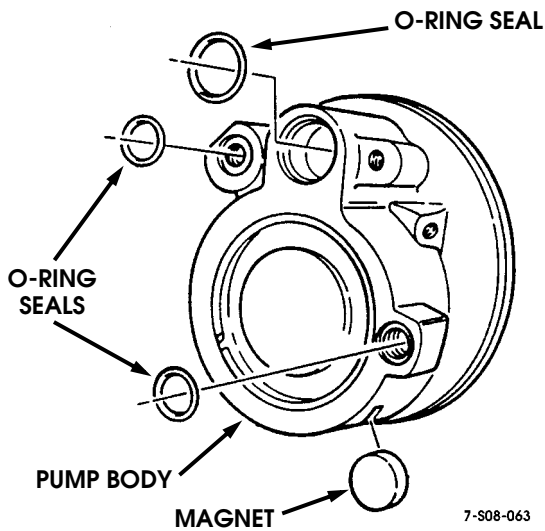

Figure 8-73: "O" Ring Seal Removal
17. Remove three O-ring seals from pump body and discard. (Figure 8-73).